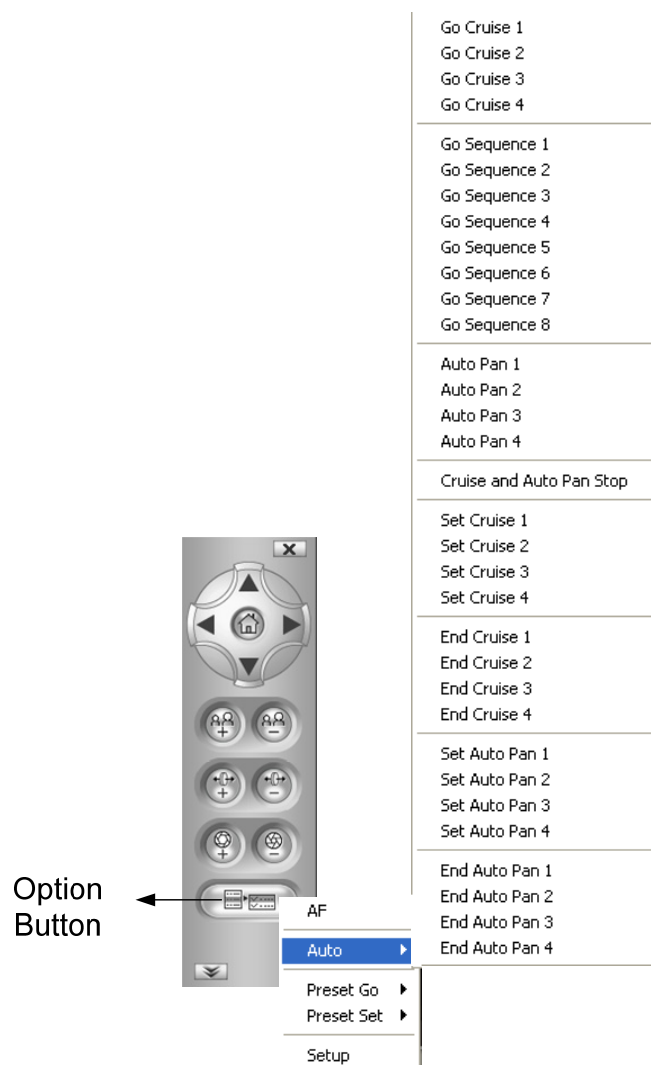

Figure 4-1
1. Click **Option** (Figure 4-1) on the PTZ Control Panel and select **Setup**. The PTZ Settings dialog box appears.
2. To save the preset position, click **Option** (Figure 4-1) on the PTZ Control Panel, click **Preset Set**, and select the desired preset number.
To move the GV-IP Speed Dome to a defined preset position, click **Option** (Figure 4-1) on the PTZ Control Panel, click **Preset Go**, and select a **Preset** number which has been previously set.
1. Click **Option** (Figure 4-1) on the PTZ Control Panel, click **Auto** and select **Set Cruise 1**.
3. When you are finished with setting up a Cruise 1 route, click **Option** (Figure 4-1), click **Auto** and select **End Cruise 1**.
To start the GV-IP Speed Dome on a defined Cruise route, click **Option** (Figure 4-1) on the PTZ Control Panel, click **Auto** and select a **Go Cruise** number which has been previously set.
2. Select the panning direction from left to right or vice versa. The default value is from left to right. Click **Option** (Figure 4-1) on the PTZ Control Panel, select **Setup**, click **Open**, and select **Advanced** located under PTZ Setting on the left menu to select the panning direction. See “Auto Pan” in *4.5 PTZ Setting- Advanced*.
3. Click **Option** (Figure 4-1) on the PTZ Control Panel, click **Auto** and select **Set Auto Pan 1**.
5. When you finish the setting, click **Option** (Figure 4-1), click **Auto** and select **End Auto Pan 1**.
To start the GV-IP Speed Dome on an Auto Pan mode, click **Option** (Figure 4-1) on the PTZ Control Panel, click **Auto** and select an **Auto Pan** number which has been previously set.
To start the GV-IP Speed Dome on a Sequence route, click **Option** (Figure 4-1) on the PTZ Control Panel, click **Auto** and select a **Go Sequence** number which has been previously set.